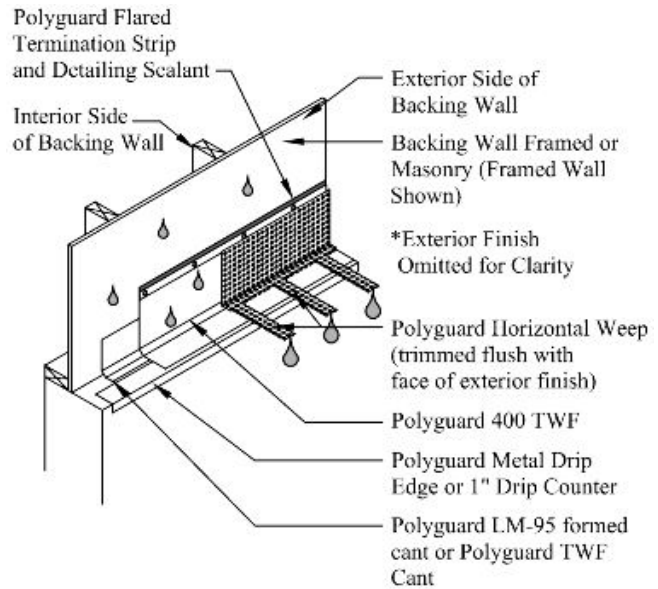
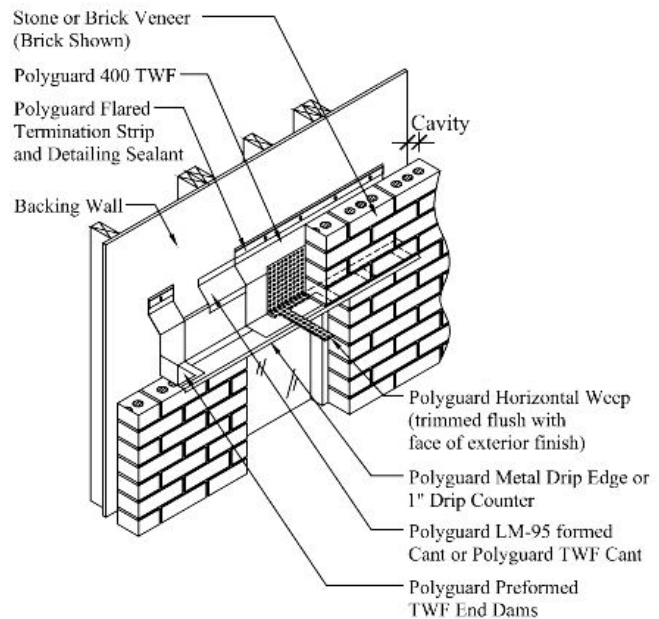

Fig. 1
Fig. 2
4. Fig.1 Form a cant along the vertical to horizontal intersection. Use either **Polyguard LM-95**, or **Polyguard TWF Cants**, **TWF Cant** shown. See Fig. 2 for gap conditions.
In cavity wall assemblies, install **Flared Termination Strips** along the top edge of the flashing, Fig. 1
8. Apply **Polyguard Detailing Sealant, 650 Mastic, or Detail Sealant PW** (Detailing Sealant shown in Figs. 1 and 2) in and along the flare of termination strips, along the top edge of non-restrained flashing (not shown), and along end laps.